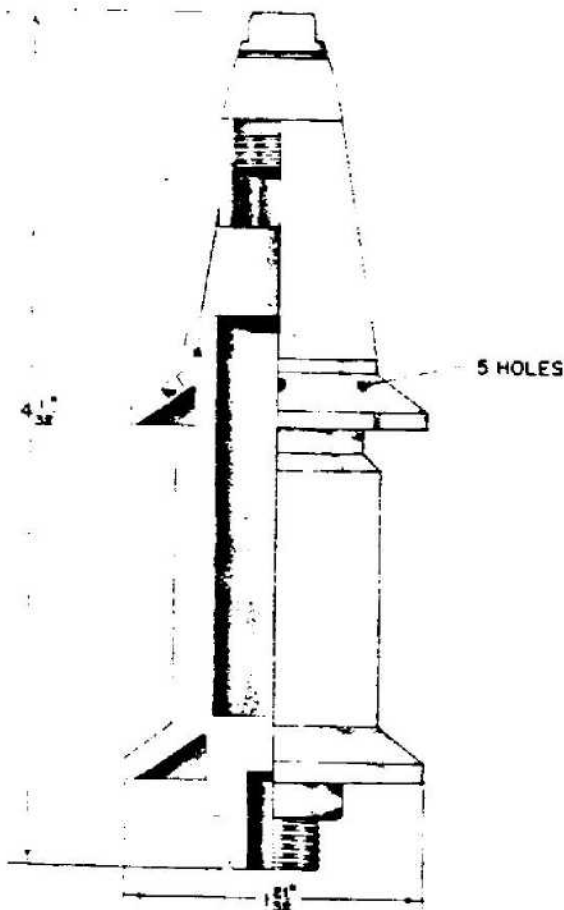

Figure 341—H. E. Projectile for Tapered Bore Gun, 42-28-mm, 4.2-2.8 Sprgr. Patr. L. Pak. 41
**GERMAN NOMENCLATURE:** 4.2-2.8-cm Sprgr. Patr. L. Pak. 41 (Sprenggranate Patronen L. Pak. 41.) (See fig. 341.)